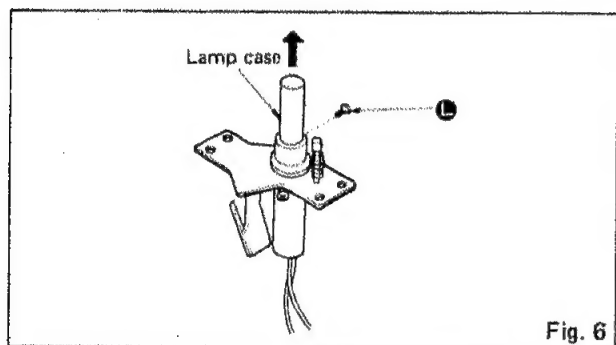

Fig. 6
12. Remove 1 screw **L** as shown in Fig. 6.